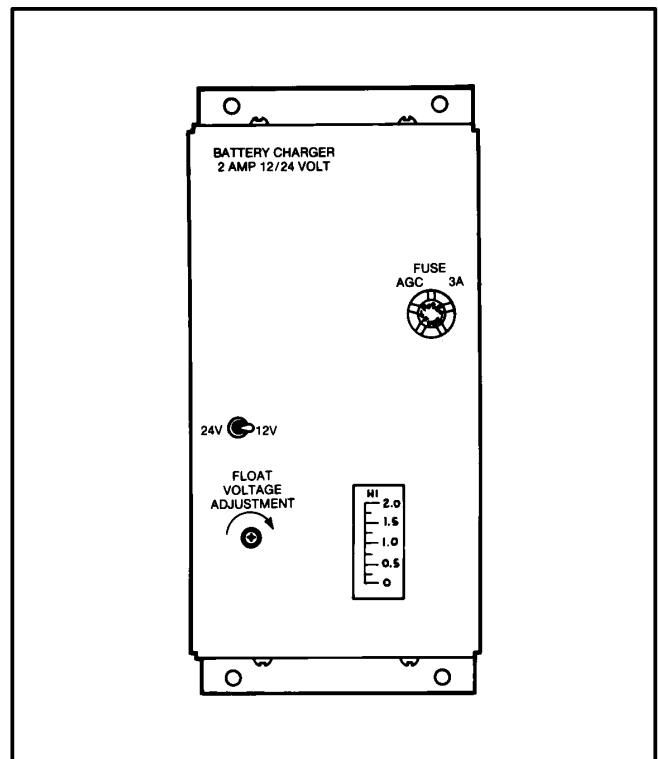

FIGURE 4. BATTERY CHARGER
3. Use a small screwdriver to turn the adjustment potentiometer on the charger panel (Figure 4) counterclockwise to decrease the float voltage and clockwise to increase the float voltage. Adjust in small steps and wait five minutes for the voltage to stabilize before making additional adjustments.